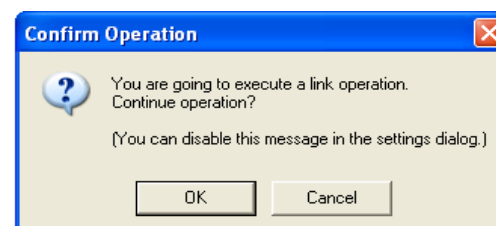

Figure 67: Confirmation Message after Drag and Drop
- 2) You get a confirmation message after drag and drop. Please refer to the Figure 67.